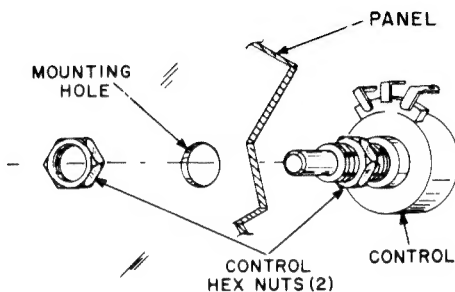

FIGURE 3. HOW TO MOUNT A CONTROL
- ( ) Mount R-25, 10K ohms OHMS ADJUST potentiometer, in the large hole in the left center of the panel. Use two nuts to mount this control as shown in Figure 3.